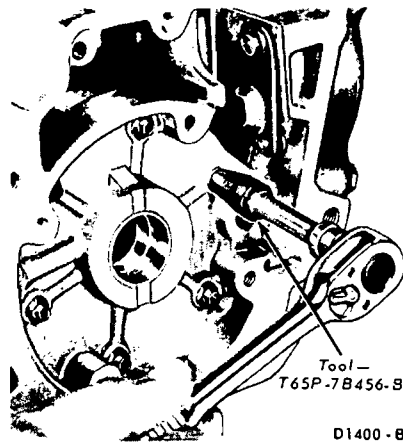

FIG. 55—Removing One-Way Clutch Outer Race Attaching Bolts
27. Remove the six one-way clutch outer race to case attaching bolts with the tool shown in Fig. 55. As the bolts are removed, hold the outer race located inside the case in position. Remove the outer race and thrust washer No. 9 from the case (Fig. 49).